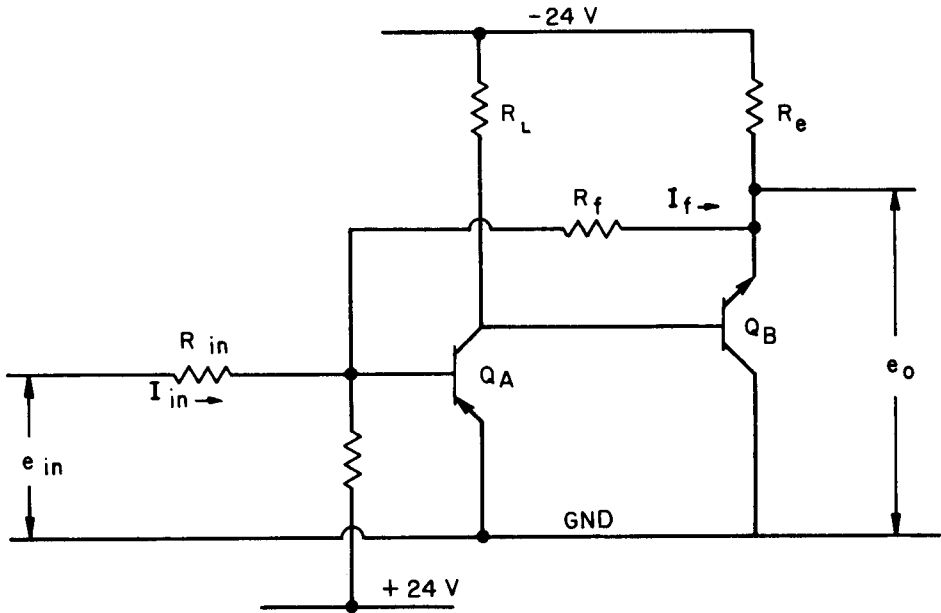

Figure 5-1. Basic Feedback Amplifier Loop
- 5.5 The output voltage from emitter-follower Q11 is equal to the input voltage on pin 2 of the etched board. The output of emitter-follower Q11 is followed by two amplifier loops, one loop consisting of Q12 and Q13 with a gain of approximately -0.46 , and the other loop consisting of the output cable driver loop formed of transistors Q14 and Q17, with its nominal gain of approximately -2.38 . Figure 5-1 shows a typical npn-pnp feedback loop, and illustrates both the ac and dc negative feedback. The gain of the loop is defined by the simple ratio of R_f/R_{in} .